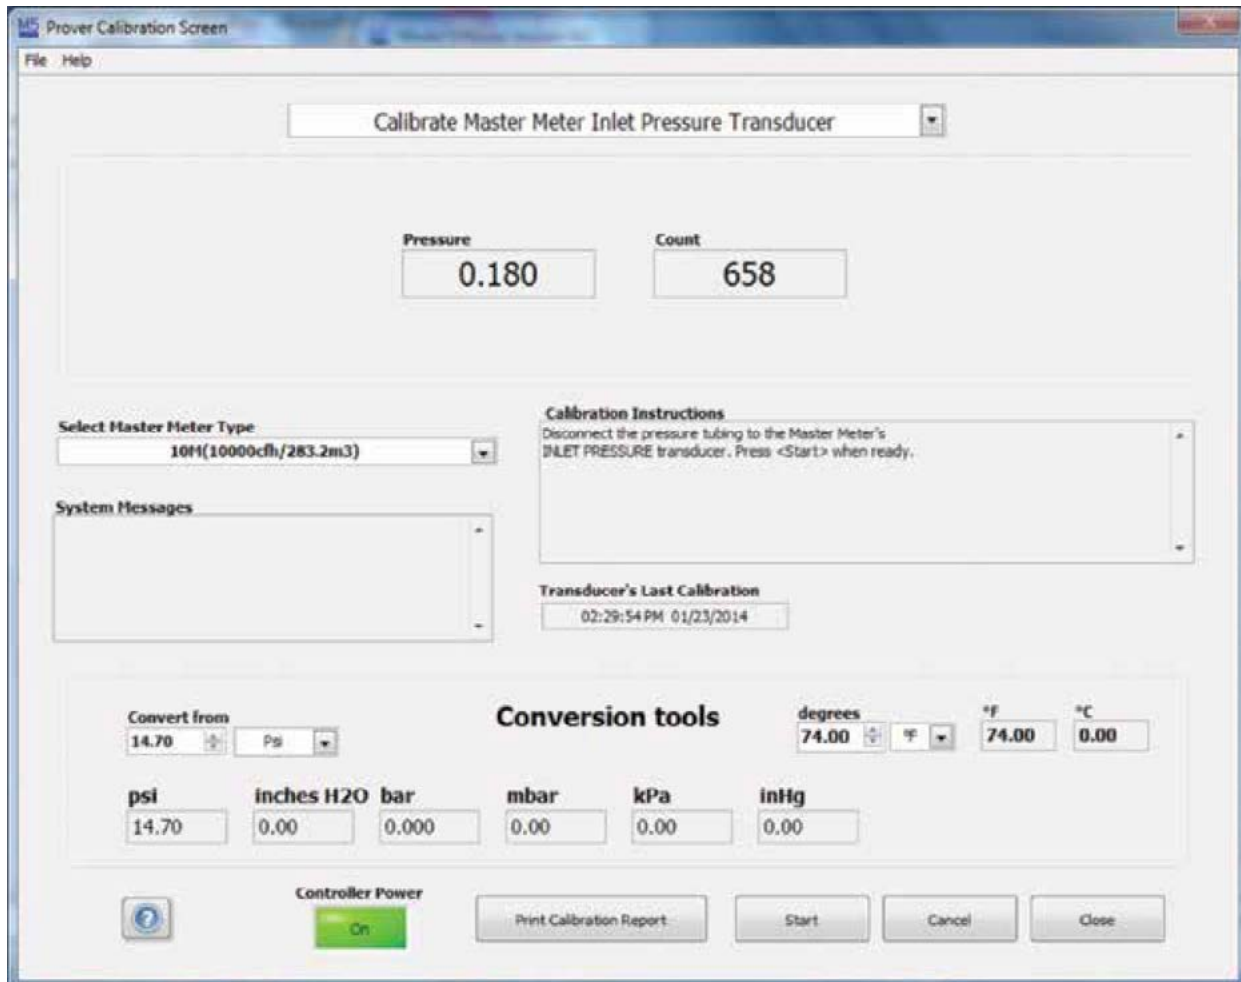

Figure 29: Select Calibrate Master Meter Inlet Pressure Transducer Selection
1. From the Prover Calibration Screen, select the pull down arrow and click “Calibrate Master Meter Inlet Pressure Sensor Transducer.” Refer to Figure 29.